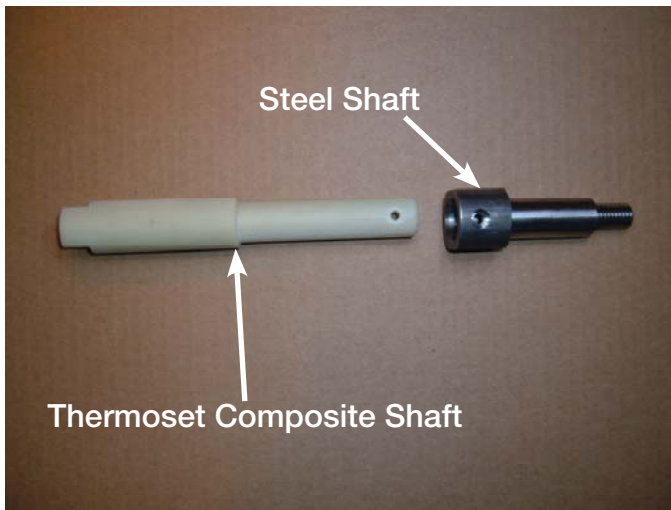

Figure 8.
11. The new shaft consist of two parts, a thermoset composite shaft and a steel shaft (refer to Figure 8).